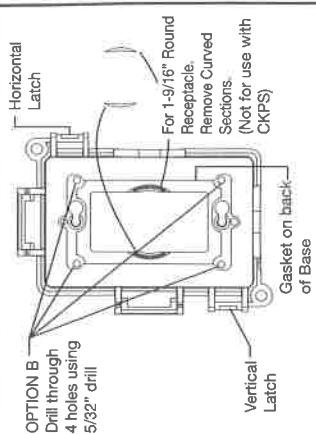

Figure 6
Verify receptacle is centered and securely fastened to box. Drill out (4) pre-marked holes in BASE using 5/32" diameter drill (Figure 6). Push adapter pin(s) into receptacle or switch (Figures 4 & 5). Make certain gasket overlaps box edges. Insert (4) furnished screws and tighten to secure BASE. See steps 6 & 7.